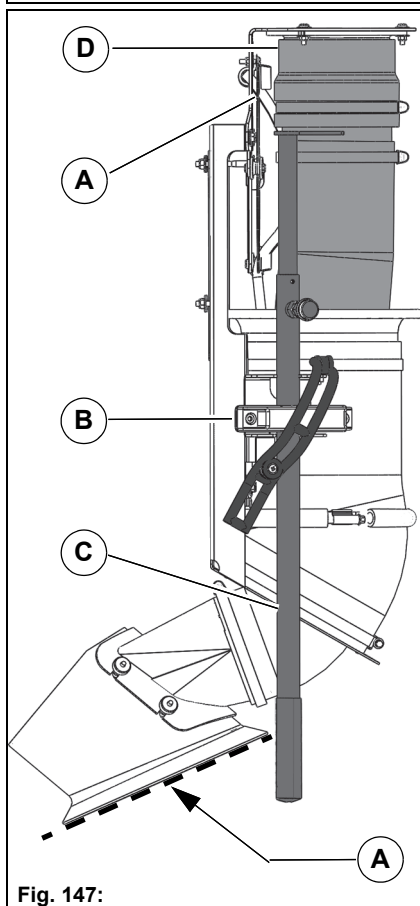

Fig. 147:
The 4 metre long hand suction hose **Fig. 147-D** is used for effectively cleaning places difficult to reach.
2. If necessary take the insert plate **Fig. 147-A** out from the holder and push it under the rubber seal.
3. Loosen the lock **Fig. 147-B** and pull the hand suction hose down and out from the holder.
4. Hold the hand suction hose with the handle **Fig. 147-C** and clean the surface. If required, adjust the handle rod to length with the locking bolt. After cleaning push the hand suction hose against the holder. The hand suction hose withdraws automatically due to the vacuum.